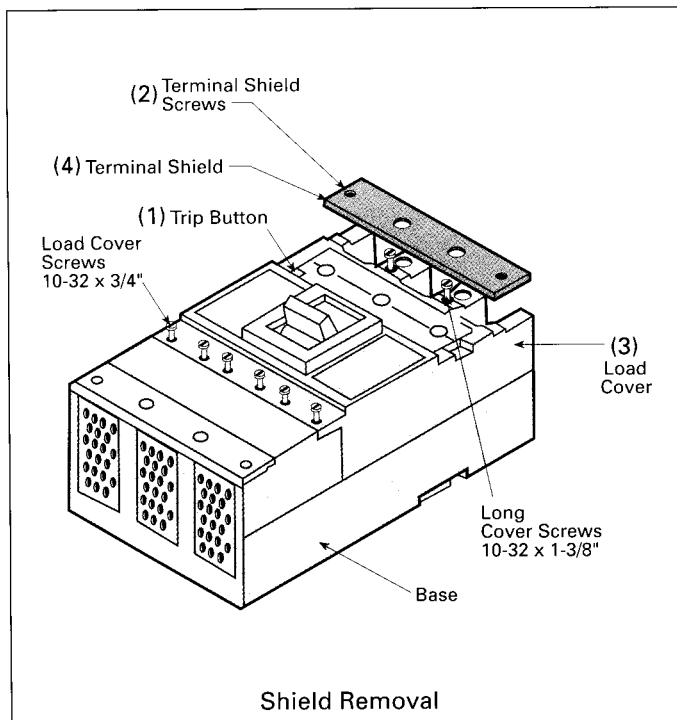

Figure 1
- B. Make sure device is in tripped position. For circuit breakers, depress the red TRIPPED button (1) (Figure 1). On molded case switches, removing the cover will trip the mechanism.
- C. Remove two terminal shield screws (2) on load end cover (3) (Figure 1) and remove terminal shield (4). Remove load end cover. Accessory units can be mounted in either right or left pole of the circuit breaker.